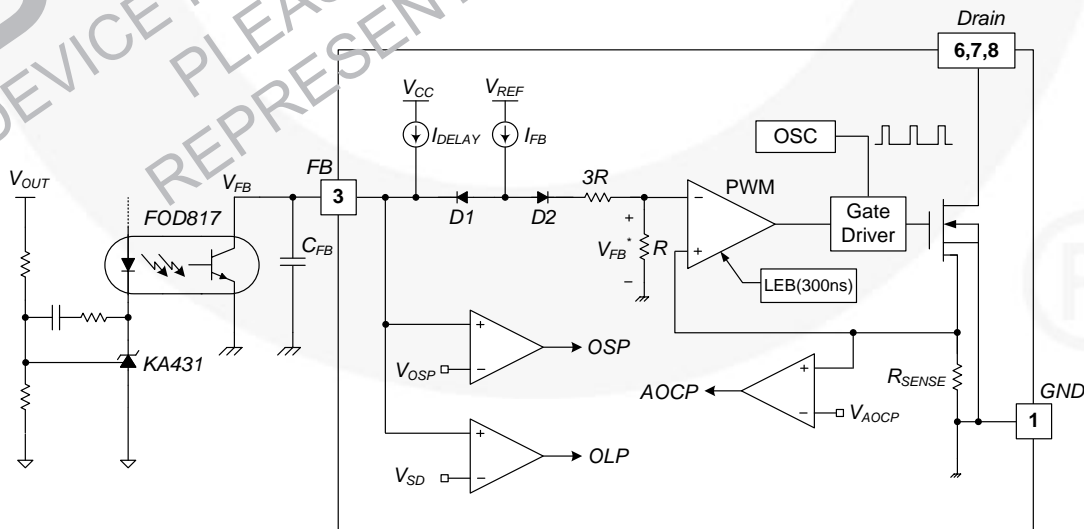

Figure 20. Pulse Width Modulation Circuit
3. Feedback Control: This device employs Current-Mode control, as shown in Figure 20. An opto-coupler (such as the FOD817) and shunt regulator (such as the KA431) are typically used to implement the feedback network. Comparing the feedback voltage with the voltage across the R_{SENSE} resistor makes it possible to control the switching duty cycle. When the reference pin voltage of the shunt regulator exceeds the internal reference voltage of 2.5 V, the opto-coupler LED current increases, pulling down the feedback voltage and reducing drain current. This typically occurs when the input voltage is increased or the output load is decreased.
3.1 Pulse-by-Pulse Current Limit: Because Current-Mode control is employed, the peak current through the SenseFET is limited by the inverting input of PWM comparator (V_{FB}) as shown in Figure 20. Assuming that the 90 μ A current source flows only through the internal resistor ($3R$, $R = 100 \text{ k}\Omega$), the cathode voltage of diode D2 is about 0.8 V. Since D1 is blocked when the feedback voltage (V_{FB}) exceeds 2.84 V, the maximum voltage of the cathode of D2 is clamped at this voltage; therefore, the peak value of the current through the SenseFET is limited.